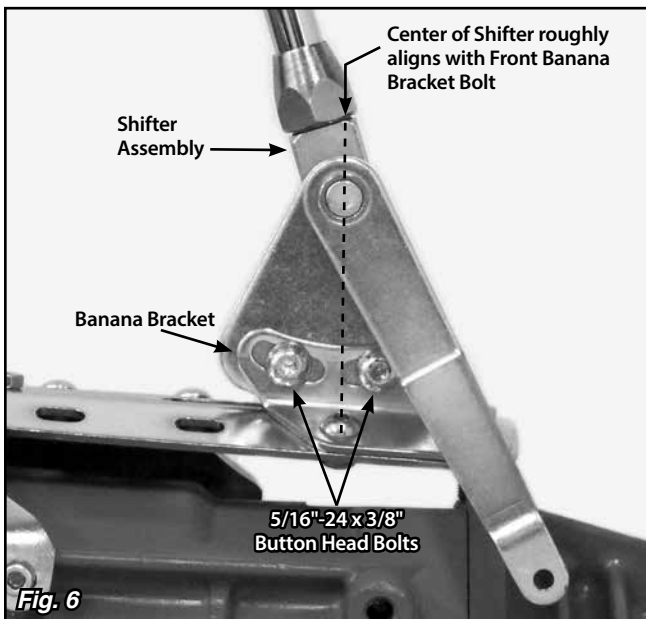

Fig. 6
Transfer that measurement to the transmission (or to the engine/transmission assembly if the engine is not installed in the vehicle). Mark that location on the shifter's main plate. The holes in the main plate that are closest to your mark are where the **FRONT** banana bracket bolts will need to be installed. **Fig. 6**
Step 10: Make sure the two 5/16"-24 x 3/8" button head bolts that attach the left side banana bracket to the shifter assembly (in the curved, slotted holes) are tight. Before tightening the shifter assembly down to the main plate, move the shifter lever through all of the gear positions. Make sure that the shifter lever and knob do not come in contact with the dash or the seat. The shifter assembly can be tilted forward or backward if needed by loosening the 5/16"-24 x 3/8" button head bolts in the curved, slotted holes in the left side banana bracket. **Fig. 6**
Double check to make sure that the bolts connecting the **left** side banana bracket to the shifter assembly are tight. Fig. 6